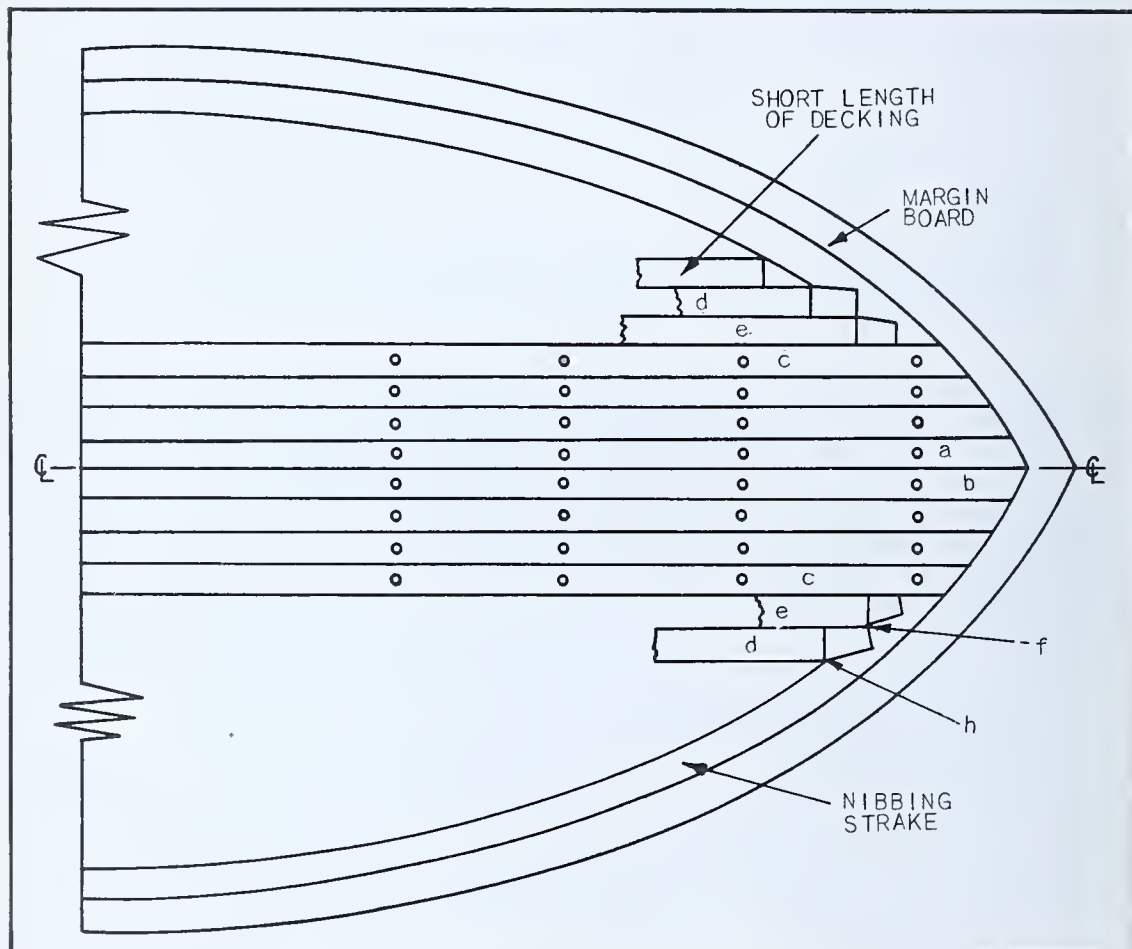
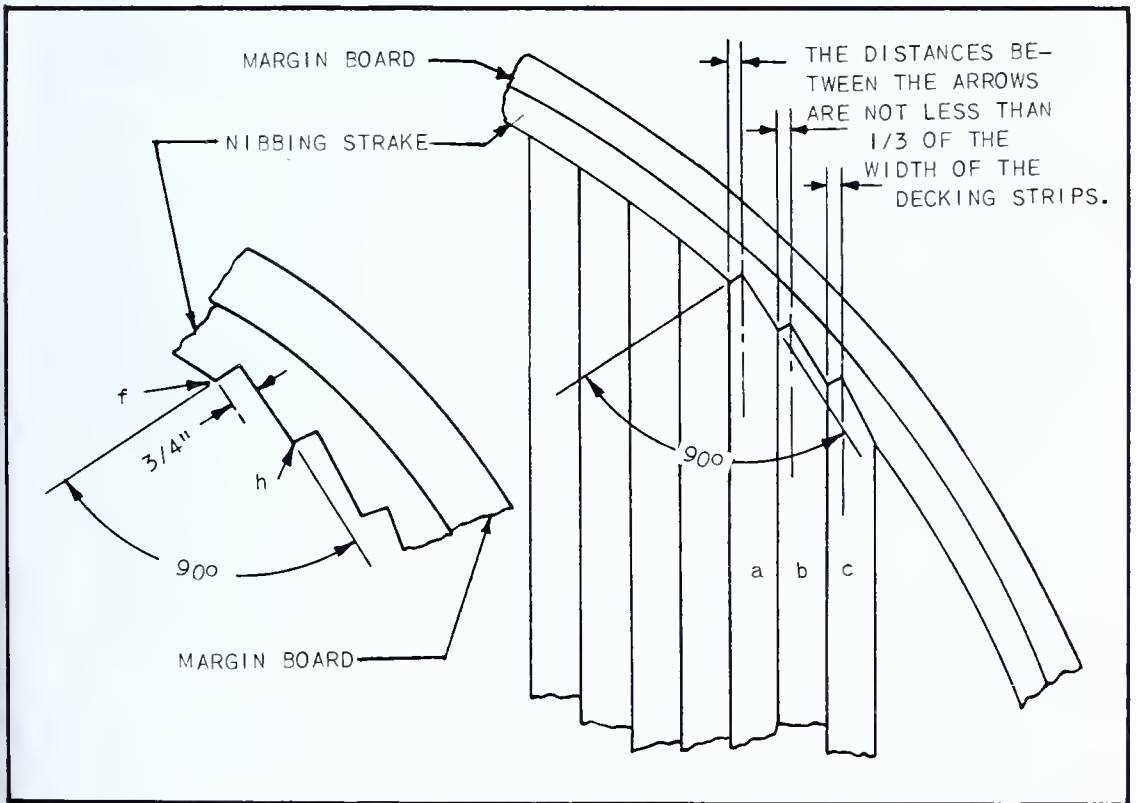

FIG. 132 — *Laying Deck. (Locating Nibs)*
FIG. 133 — *Laying Out for Nib Cut-Outs*
Usually the ship's decking is laid in a fore and aft direction. See Fig. 131. Where the ends of the decking material meet the curve of the ship at the bow and at the stern, the strips of decking are cut and fitted as shown in Fig. 132. This cutting and fitting is called "nibbing". The nibbing removes the possibility of thin, pointed ends being left on the decking strips.
(To fit as shown at "a" and "b," see Fig. 132.)
3. The two pieces cut in Step 2 are laid so that the joint between them is located on the deck center line. See Fig. 132.
5. Proceed to lay strips of decking on both sides of the two strips laid in Step 3. See Fig. 132.
6. Cut a full length strip of decking for the first nibbing piece. See "e", Fig. 132.
8. With this short piece of decking "e" held hard against the piece of decking "c" fastened down, shove it ahead until it hits the margin strake, thus locating a point on the margin strake. See Fig. 132 at "f".
NOTE: Figure 133 shows how the location and the shape for each nib cut-out is obtained. Shoving the short piece of decking ahead until it hits the margin strake as in Step 9 above gives the locations of the sides of the decking strip. Note the three pairs of lines that are projected ahead of the decking strips "a", "b", and "c". The left hand lines in each pair of double lines are the joints between the decking strip. (This space may be a little more than $\frac{1}{3}$ the width of a decking strip but it must never be less.)
The inset in Fig. 133 shows an enlarged view of the nib cut-out. Points "f" and "h" are the points obtained in Step 8 and are shown on Fig. 132. With a steel square, or with the end of a steel scale cutting these points as shown by the 90 degree angle, scribe a line to mark the cut-out. The cut-out must not be more than $\frac{3}{4}$ " deep, as shown. The cut-outs are all laid out on the nibbing strake, cut out, and smoothed up before any of the decking is fitted into place in the nibs.
10. Shove the piece "d" forward until it stops against the margin strake, (Fig. 132.)
11. Mark around the angle of the square, on the margin strake, as explained in the note above. See Fig. 133.